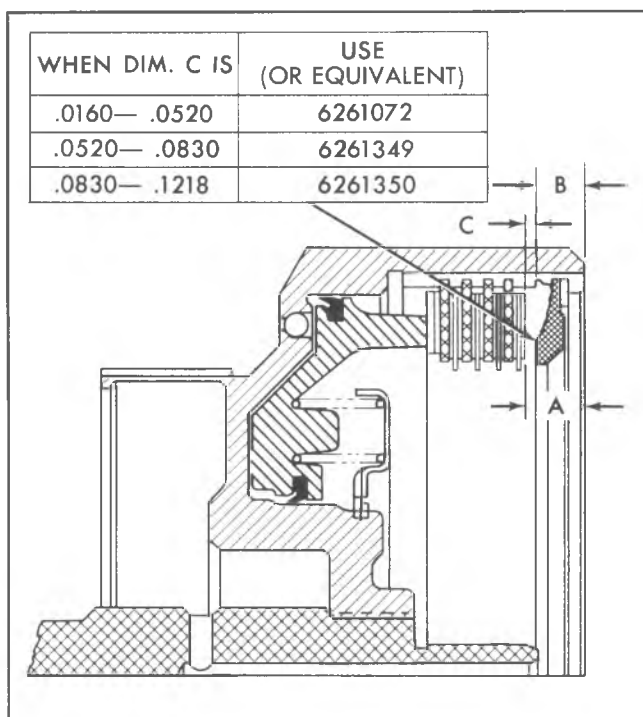

Fig. 84M-Determining Selective Fit for Forward Clutch Pressure Plate
- Install forward clutch pressure plate (selective fit) and retaining ring. Using chart on Figure 84M to select correct pressure plate (dimension C), measure distance from the top of clutch pack to the top of clutch drum (dimension A). Measure distance from